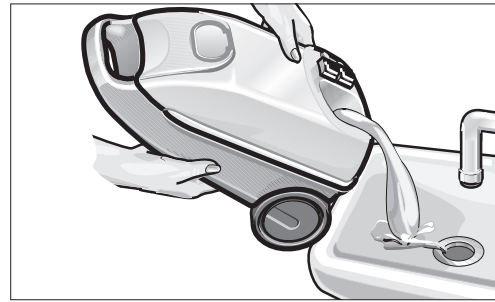

Fig. 4: Cleaning the boiler
- Make sure that all traces of water are drained from the boiler (see Fig. 4).
- Fill the boiler with water and shake the cleaner vigorously. This will loosen any scale that has settled at the bottom of the boiler. Tilt the cleaner towards the corner with the funnel inlet (A3) and pour out the water (see Fig. 4).